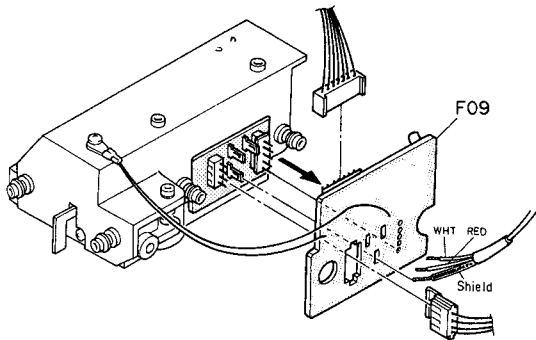

Fig. 2.4
- (5) Remove two connectors, unsolder the two-core shield cable, and unsolder F09 to separate F09 from the Pickup. See Fig. 2.4.